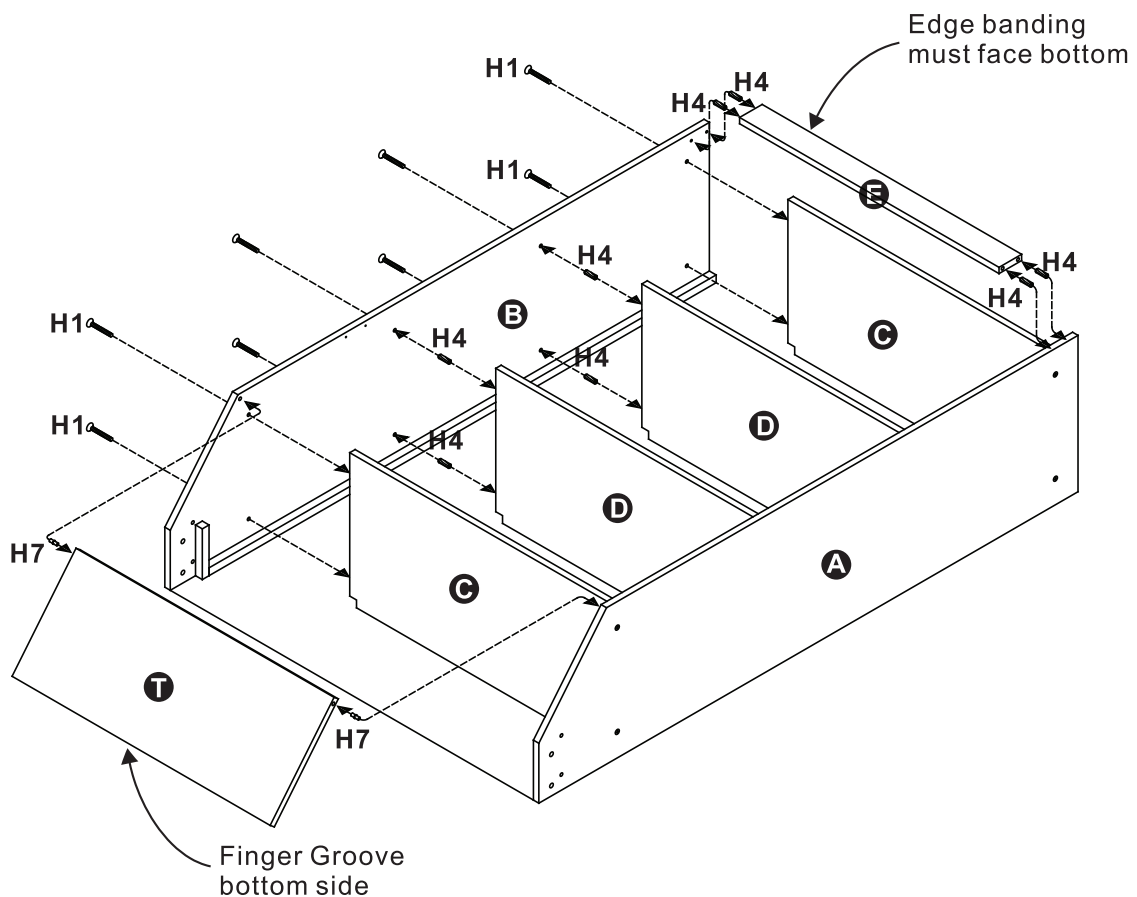

Figure 8
13. Install 4 pcs Wood Dowel Pins (**H4**) into Part **E**. Attach Part **E** to **A**. See **Figure 8**.